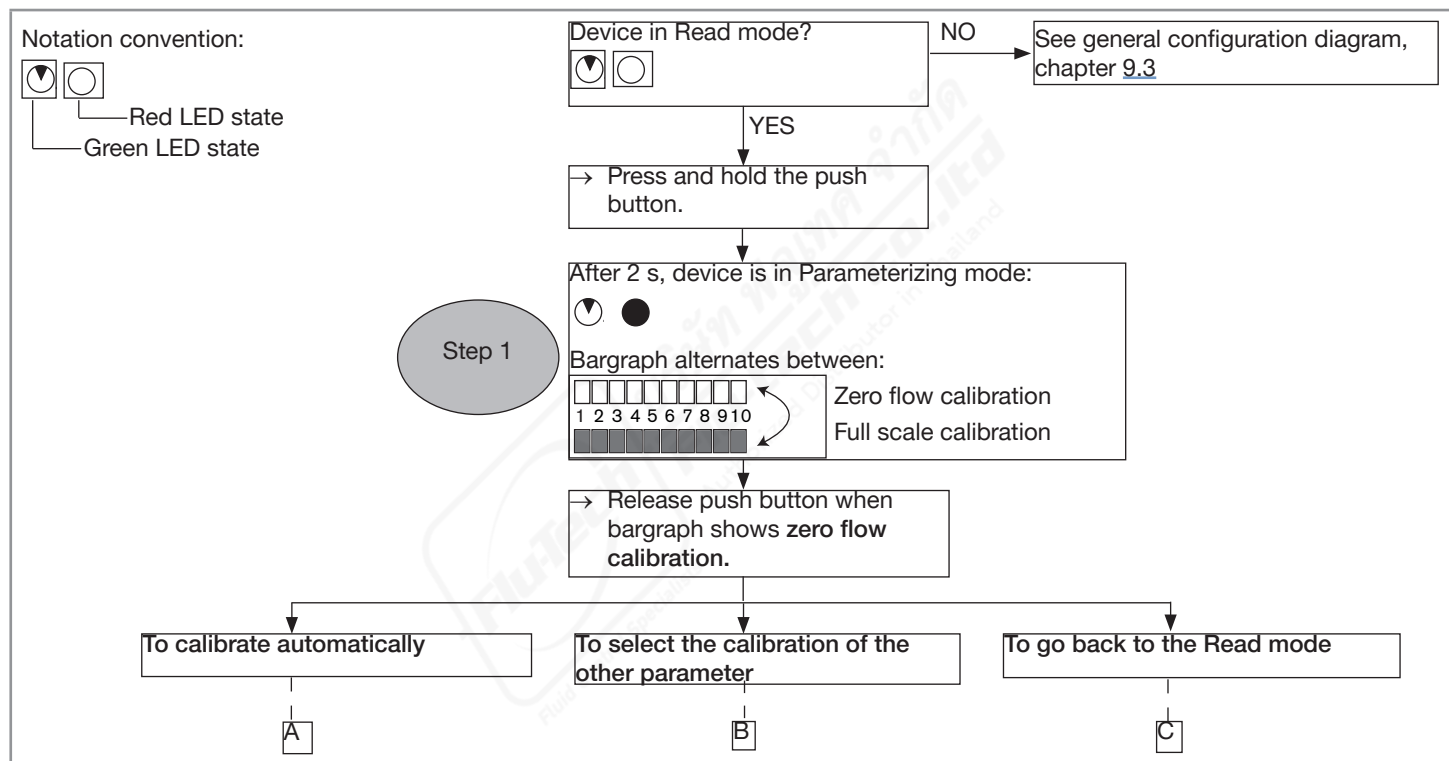
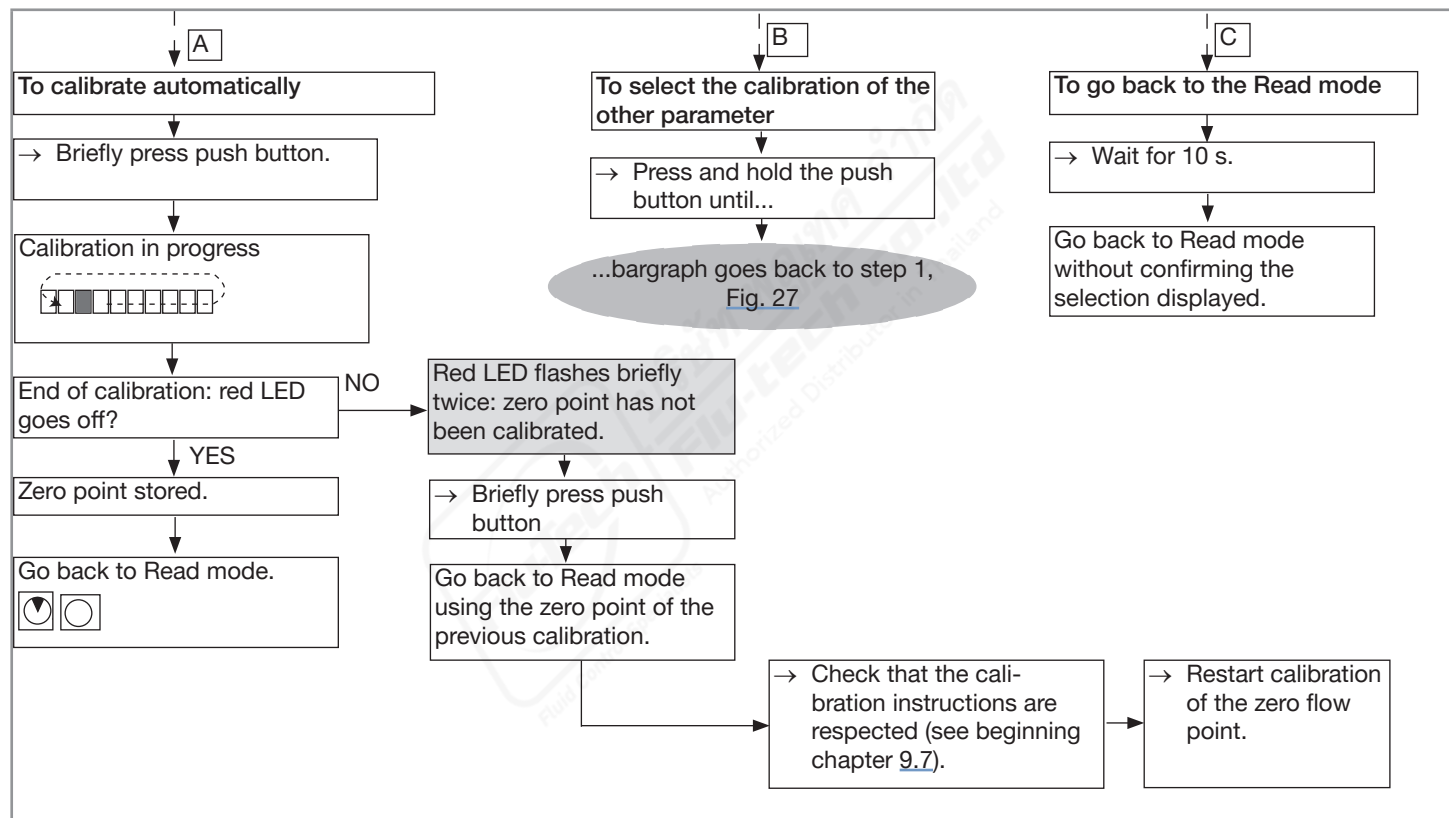

Fig. 27: Calibration of the zero flow point, part 1
Fig. 28: Calibration of the zero flow point, part 2
- Calibrate the "zero flow" point (see Fig. 27 and Fig. 28).